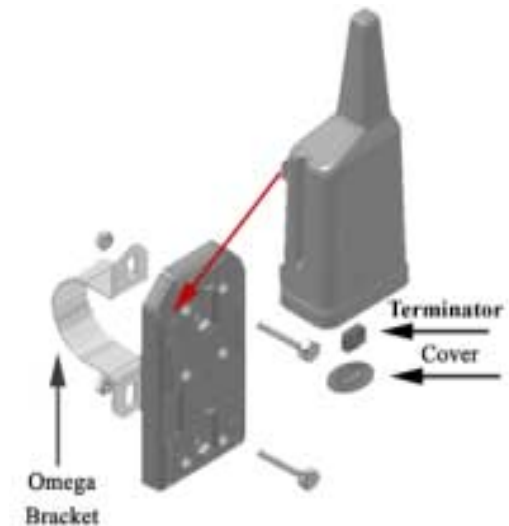

Figure 3: On-Pipe Mounting
1. Fasten the mounting bracket on the pipe with two screws and the "Omega" bracket (See figure 3)